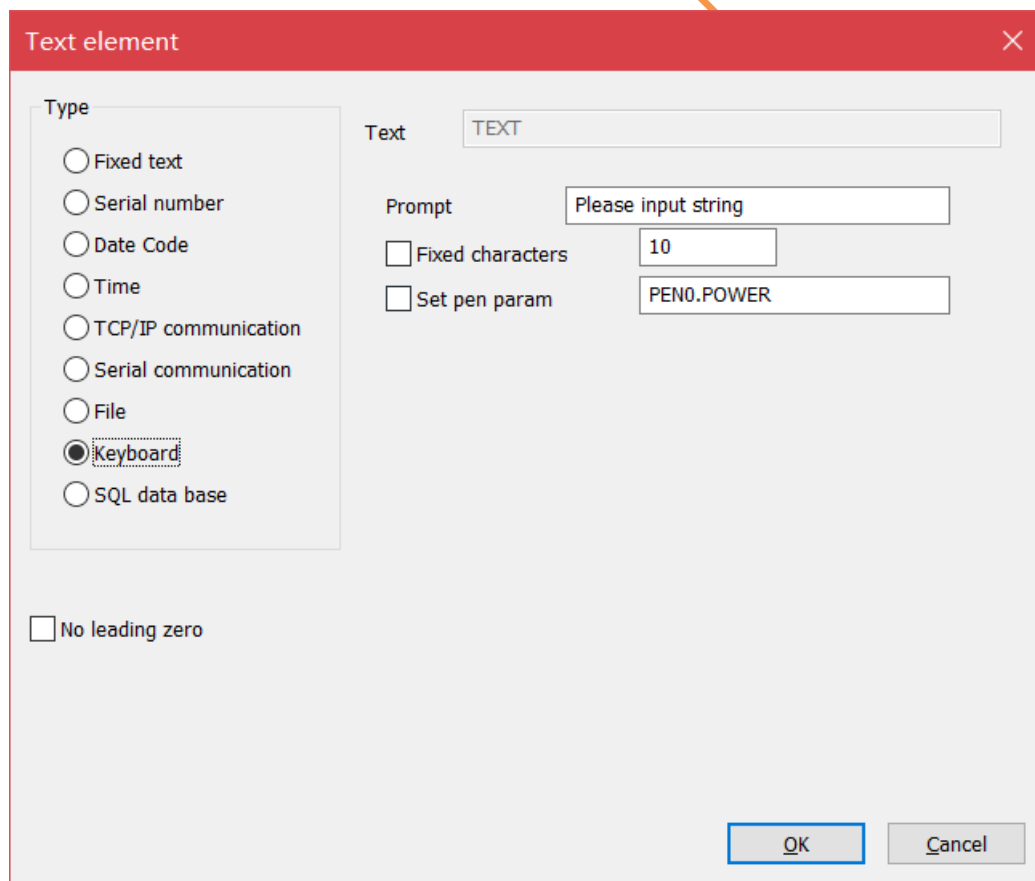

Fig4-23: keyboard parameter
**Keyboard:** The keyboard text is the text input by the user from the keyboard. When the keyboard text system is selected, the system will display the content as shown in Figure 4-23 and ask the user to set the keyboard text parameters.